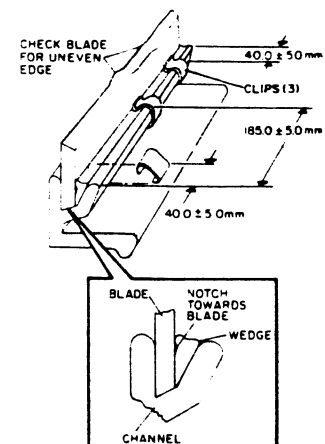

Figure 2. Installing the Cleaning Blade
1. CLEAN THE CHANNEL BEFORE INSTALLING THE BLADE (FIGURE 2).
4. INSTALL CLIPS, AND POSITION THE CLIPS IN ORDER TO SECURE WEDGE AGAINST BLADE (FIGURE 2).